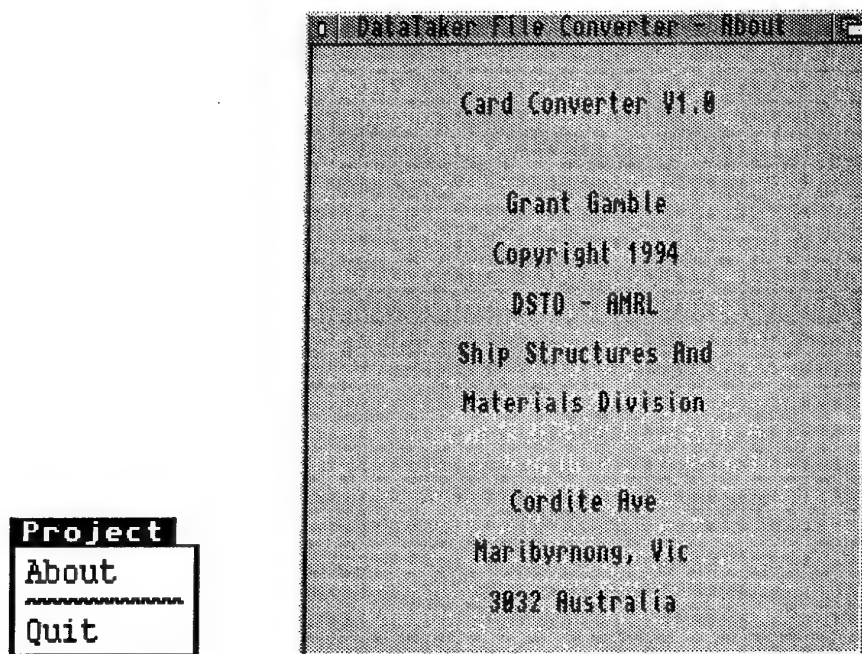

Figure 4. The 'Project' menu and the 'About' window
Firstly, the 'Project' menu contains the items 'About' and 'Quit'. The 'About' option opens a window showing information about the program, including the version number. This window may be closed by selecting its closewindow gadget located in the upper left corner of the window, or left open to be closed by the program when quitting the program. Note that this window, along with the program window may be 'pushed back' behind other windows by selecting the windowback gadget located in the upper right hand corner of the window. The 'Quit' option closes the Card Converter program, releasing all resources used by it back to the operating system. Figure 4 illustrates the 'Project' menu and the 'About' window.
9. Quit the program	Select 'Quit' from the 'Project' menu or click the window close gadget. (Section 2.6-2.7, Figure 4)
8. Quit the program	Select 'Quit' from the 'Project' menu or click the window close gadget. (Section 2.6-2.7, Figure 4)